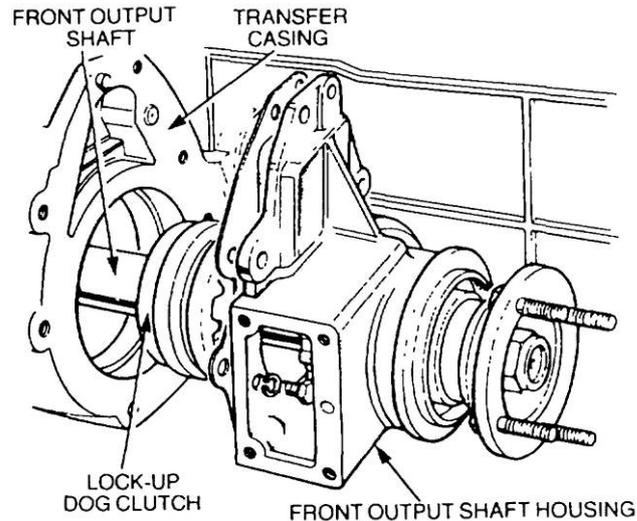

Figure 82 Installation of the Front Output Shaft Housing
- x.** Fit the lock-up dog clutch on the differential front half and insert the front output shaft. Locate a new gasket on the transfer case dowel and install the front output shaft housing (Figure 82). Secure the housing with the six bolts and new lock-washers. Torque the bolts to 30 N.m (22 lbf.ft).